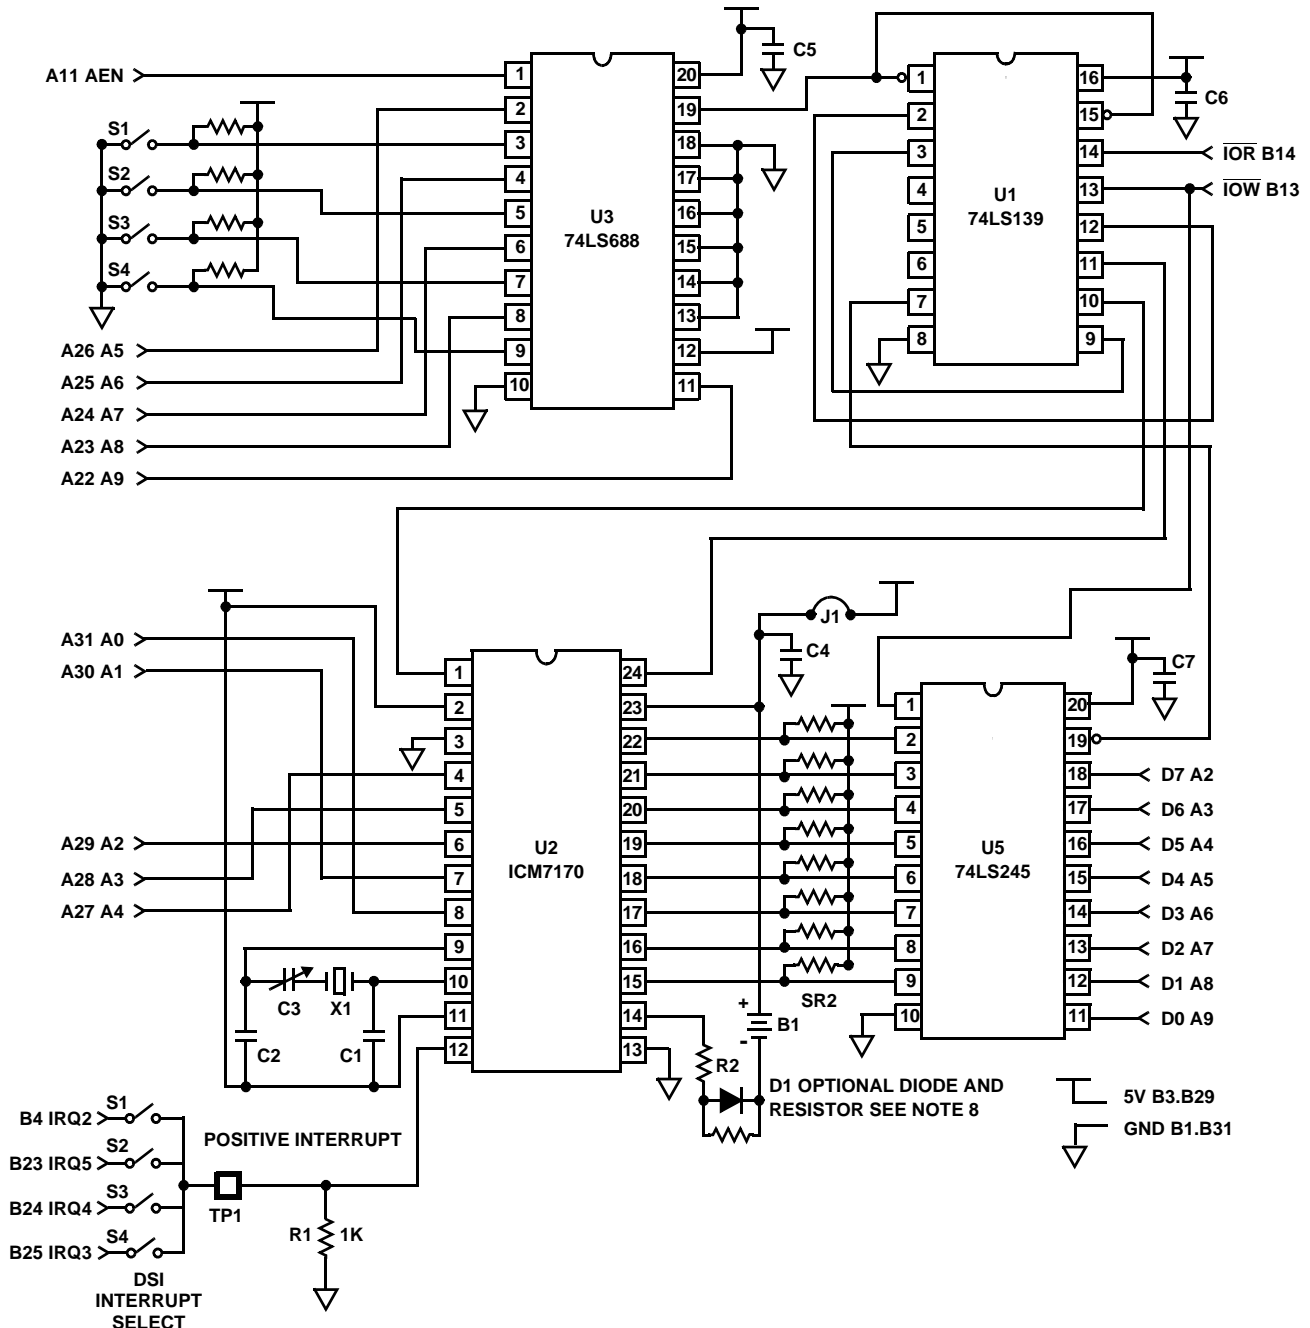

FIGURE 9. IBM PC INTERFACE FOR ICM7170Y
Figure 9 shows the schematic of a board that has been designed to plug into an IBM PC/XT (Note 1) or compatible computer. In this example  $\overline{CS}$  is permanently tied low and access to the chip is controlled by the  $\overline{RD}$  and  $\overline{WR}$  pins. These signals are generated by U1, which gates the IBM's  $\overline{IOR}$  and  $\overline{IOW}$  with a device select signal from U3, which is
8.  **$V_{BACKUP}$  DIODE** - Lithium batteries may explode if charged or if discharged at too high a rate. These conditions could occur if the battery was installed backwards or in the case of a gross component failure. A 1N914-type diode placed in series with the battery as shown in Figure 9 will prevent this from occurring. A resistor of 2M $\Omega$  or so should parallel the diode to keep the  $V_{BACKUP}$  terminal from drifting toward the  $V_{SS}$  terminal and shutting off ICM7170 I/O during normal operation.